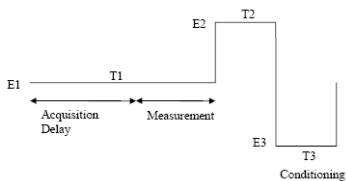

Fig. 7: Pulse mode
Whole measurement procedure performed during the Pulse mode is described by the Fig. 7 on pg. 10.
**Note:** The potentials set during the T2, T3 and T4 time intervals are used to renew the surface of the electrodes. The *E4 Potential* and *E4 Pulse Width* stages are not described on the Fig. 7 on pg. 10.